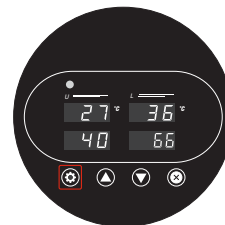

Fig. 5
5. Press Set **10** button again (Fig. 5) to go into the timer setting mode.